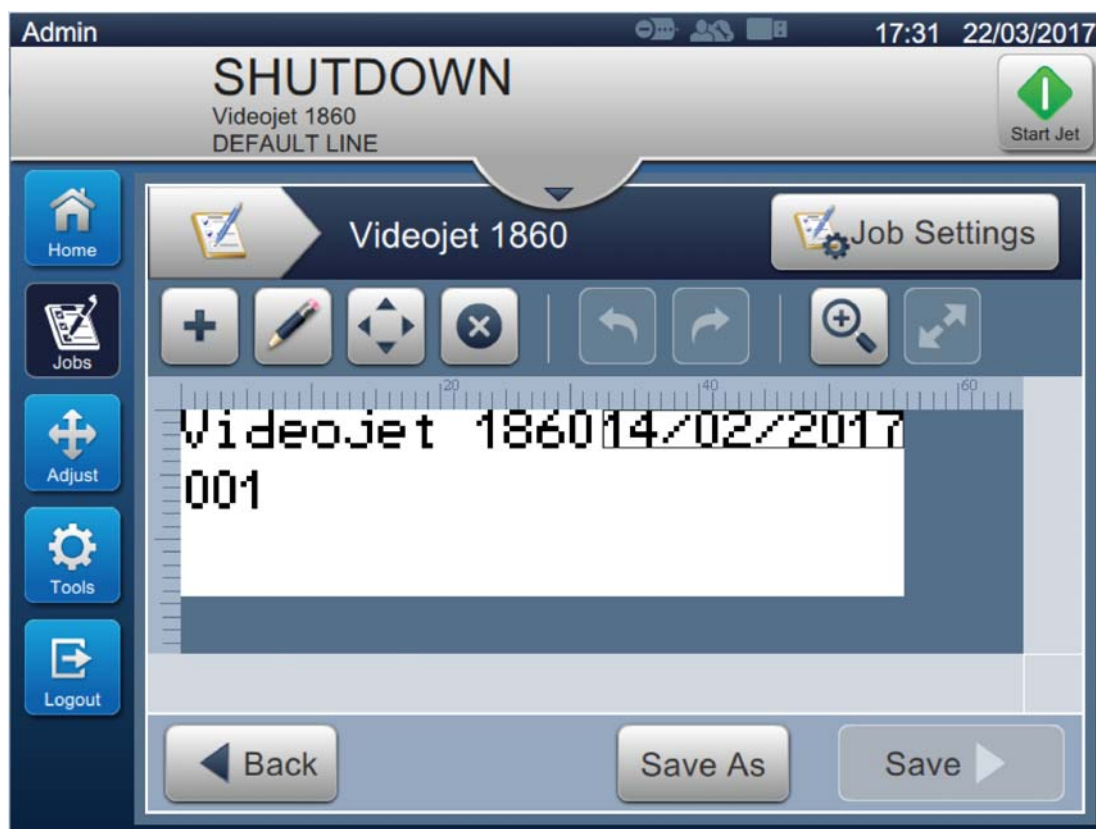

Figure 5-15: Sample Message
In the below section the user is guided to create a new job as shown in Figure 5-15 which consists of the following fields:
10. Select the field and either drag or use the  button to move the field to the location as shown in Figure 5-15 on page 5-33.
22. Select the field and either drag or use the  button to move the field to the location as shown in Figure 5-15 on page 5-33.
30. Select the field and either drag or use the  button to move the field to the location as shown in Figure 5-15 on page 5-33.